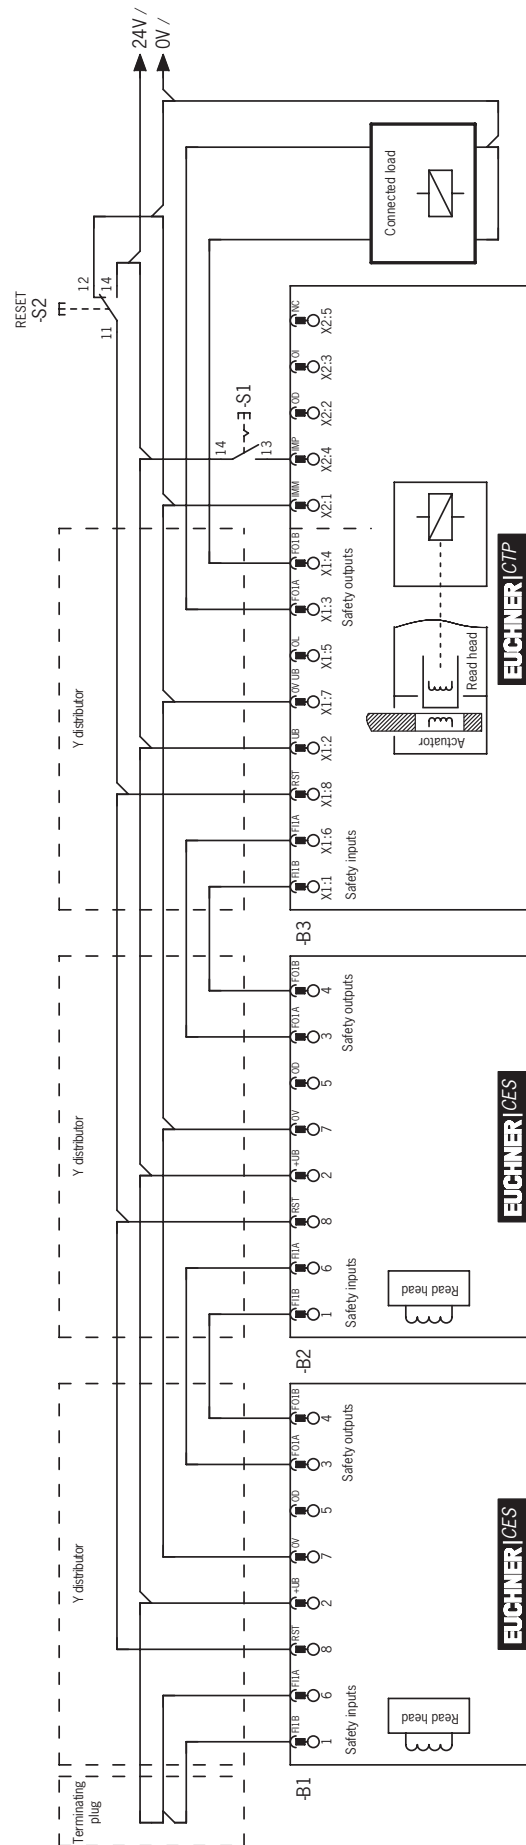

Figure 5: Connection example for operation in a CES-AR switch chain
- › A common signal must be used for all switches in the chain. This can be a changeover switch or the output of a control system. A pushbutton is not suitable because the reset must always be connected to GND during operation (see switch S2 in *Figure 5 on page 25*).
The RST input must be connected as shown in *Figure 5 on page 25* to permit this.